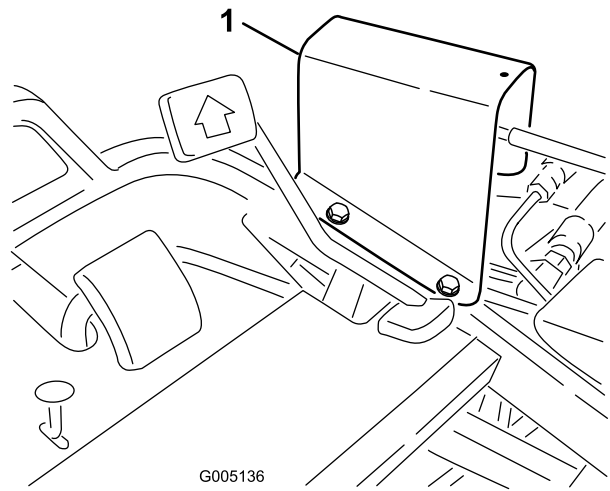

Figure 43
1. Place 1, 2 and 3 spools in neutral (center of travel) and remove the transfer rod guard from the foot panel (Figure 43).